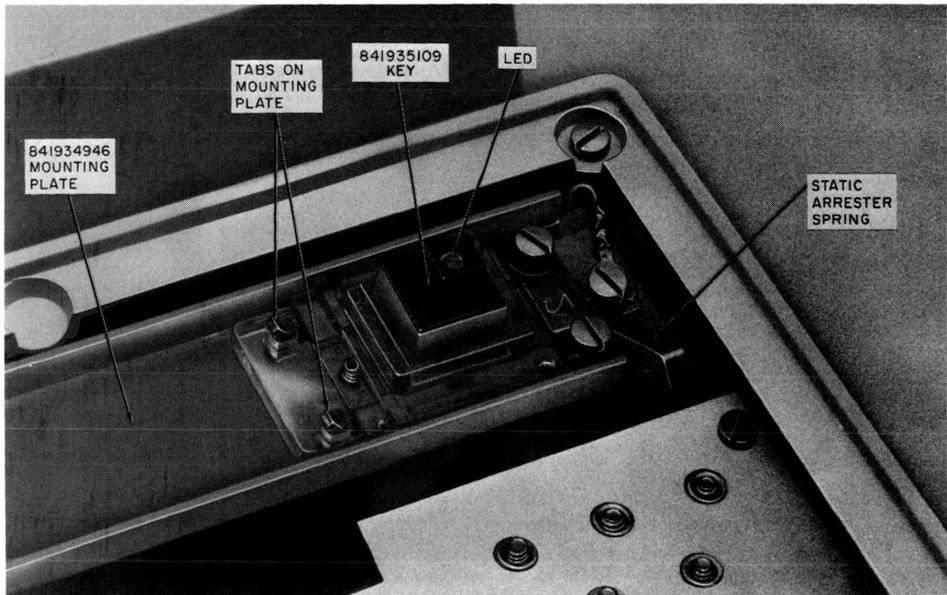

Fig. 7—5000AM With Faceplate Removed Showing Mounting Plate and 651G Key Installed
- (2) Install 841934946 mounting plate and 841935109 key (Fig. 7) as follows:
- (a) Remove screw holding static arrester spring (Fig. 7) and slide mounting plate under the spring. Replace the screw holding the spring and the associated lead. This should secure right side of mounting plate.